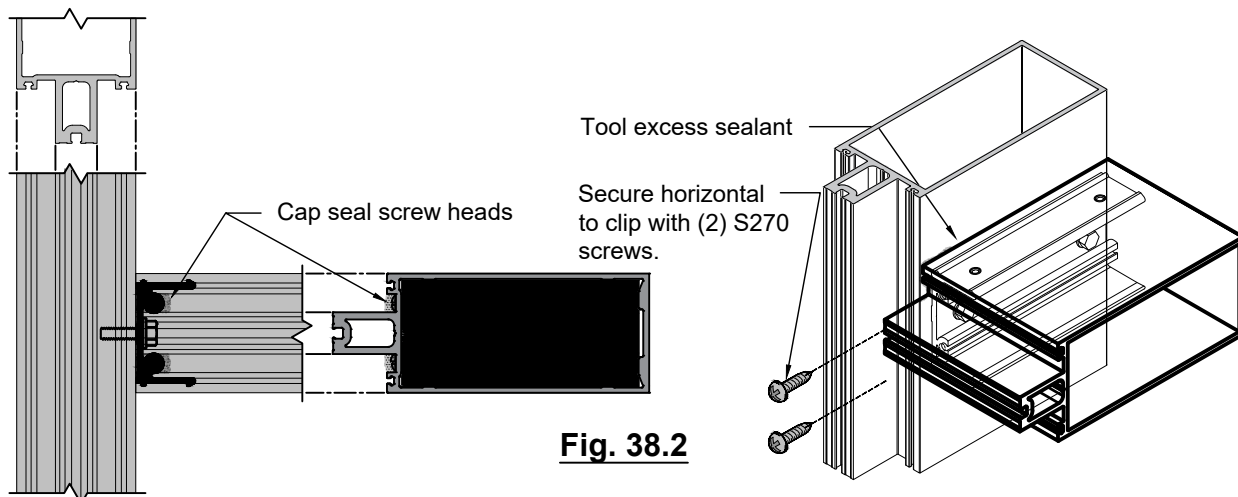

Fig. 38.2
- C. Tool sealant at the horizontal/vertical intersection. See **Fig. 38.2**.